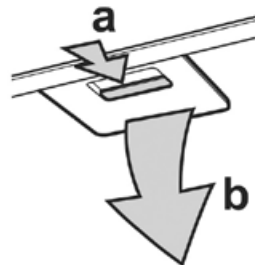

Fig. 1
1. Remove the metallic filters (Fig. 1). In case there are carbon filters mounted, remove them.
1. Remove the metallic filters (Fig. 1), and remove carbon filters from them.